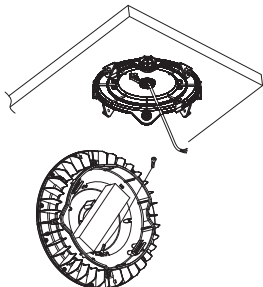

Figure 1-5
5. Attached the safety cord to the hook inside the back of the driver box once mounted. Figure 1-5